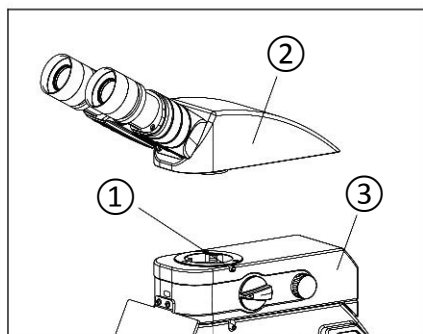

Fig. 23
Match the dovetail on the bottom of the head ② to the dovetail mount on the top of the illuminator ③, and secure it by tightening the lock screw ①. (Fig. 23)